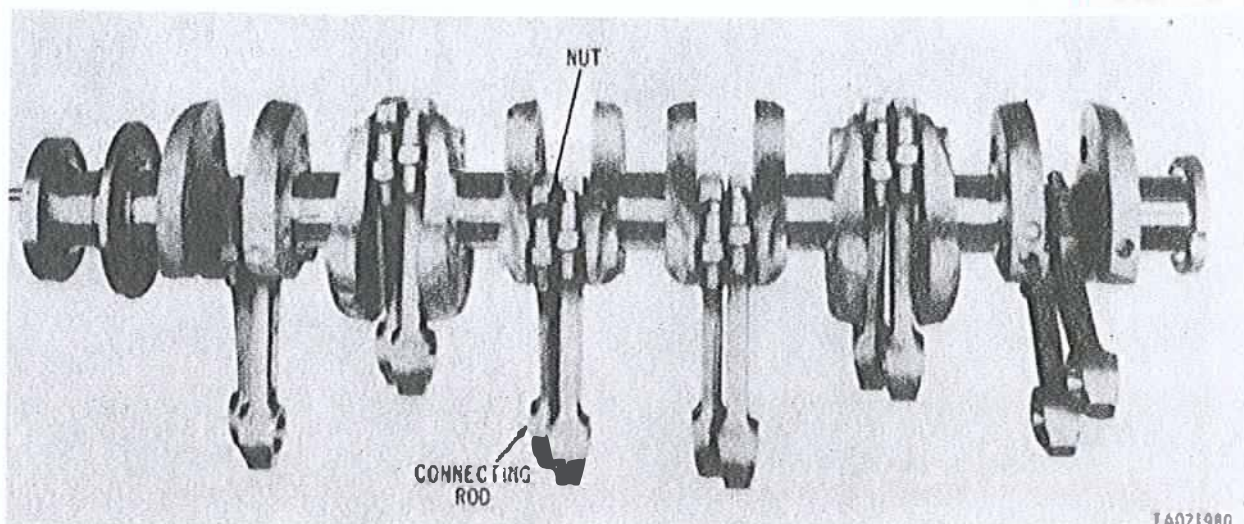

Figure 3-169. Removing or installing connecting rod assemblies.
a. Remove 24 connecting rod cap bolt self-locking nuts (fig. 3-169), attaching rod caps to connecting rods. Remove rod caps, bearings, and connecting rods from crankshaft.